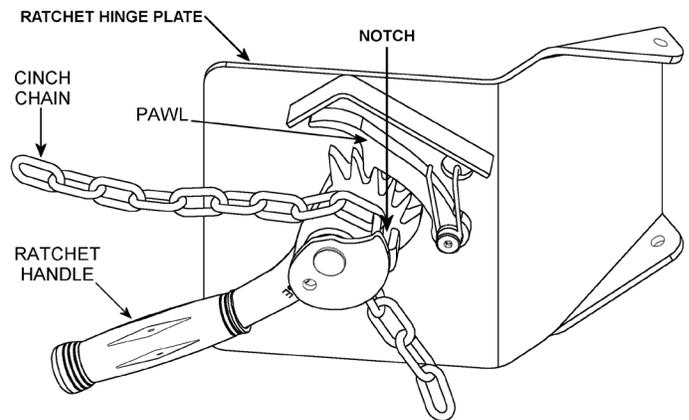

Figure 3.2
3. Attaching the drum: Drape the chain across the front of the drum and engage a link into the slot in the ratchet (Figure 3.2). Turn the ratchet clockwise to tighten chain. If ratchet turns until the pawl is beyond the last ratchet tooth, turn the ratchet back and slide the next link into the ratchet slot and try tightening again. The chain must be held tightly against the drum with the pawl engaged securely in the ratchet teeth.